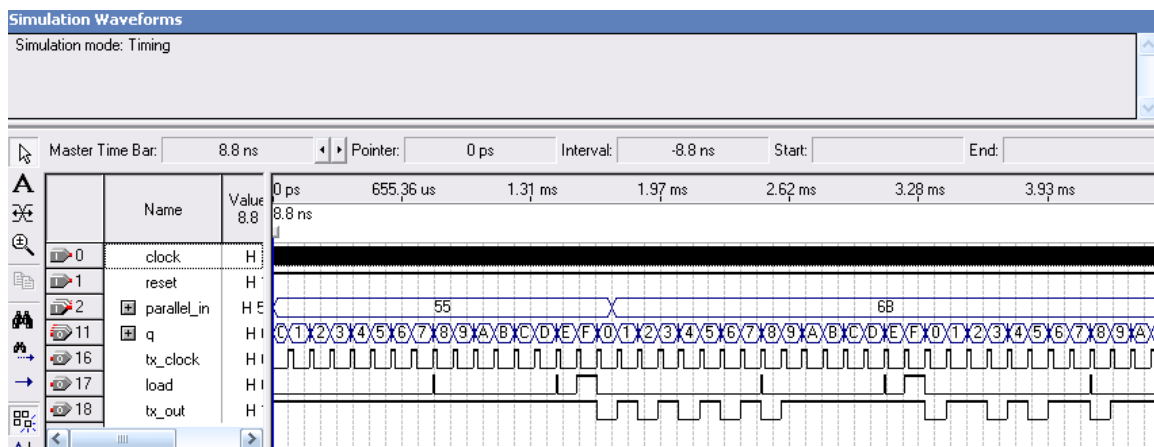

Figure 6 Simulation Waveforms for Transmitter Test Circuit
4. Verify the operation of the test circuit by creating a simulation like that in Figure 6. (Use ModelSim.) Make the end time 4 ms. Make the clock frequency 50 MHz, the same as the DE1/DE2 clock.